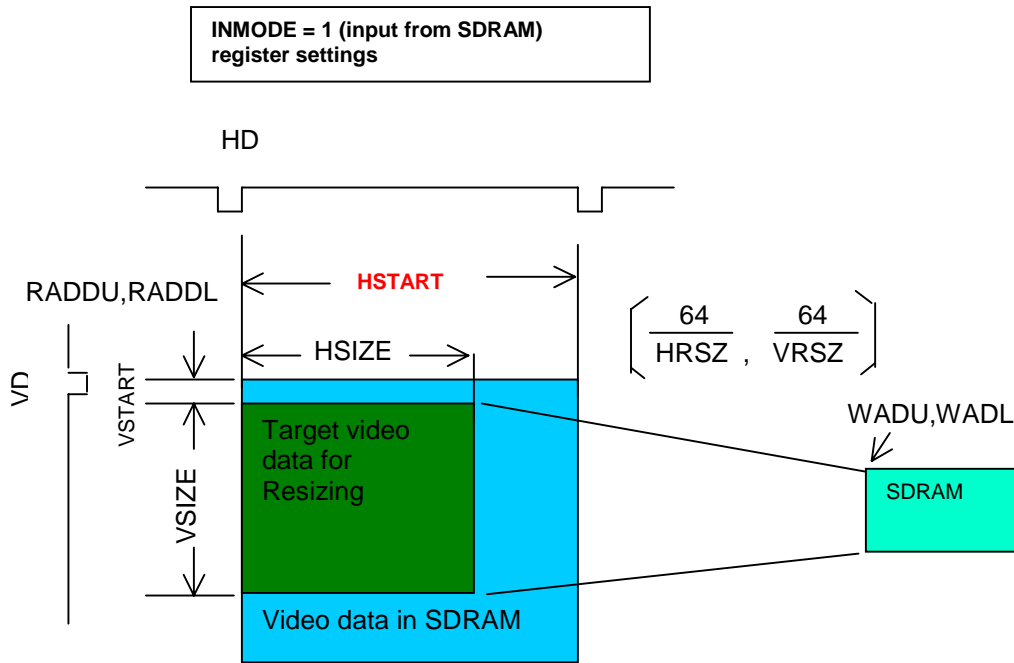

Figure 29: Preview Image parameters in SDRAM input mode
**NOTE:** When Preview Engine is configured to take input from SDRAM, the register HSTART must be set with the pixel width of input data present in the SDRAM as shown in Figure 29.